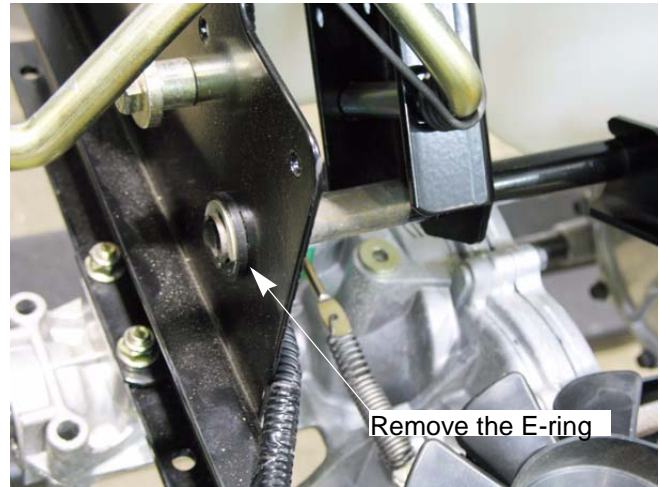

Figure 8.27
5. Remove the E-clips that retain the bushings. See Figure 8.27.